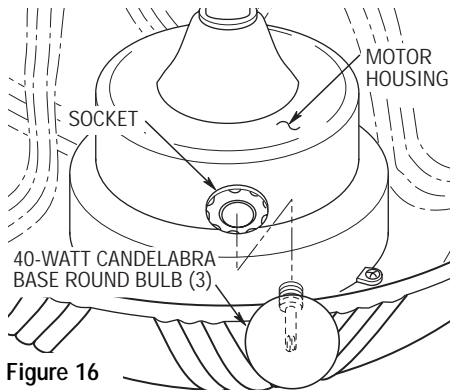

Figure 16
- 7. Screw in three 40-watt (maximum) candelabra base round bulbs into the sockets in the motor housing (Figure 16).